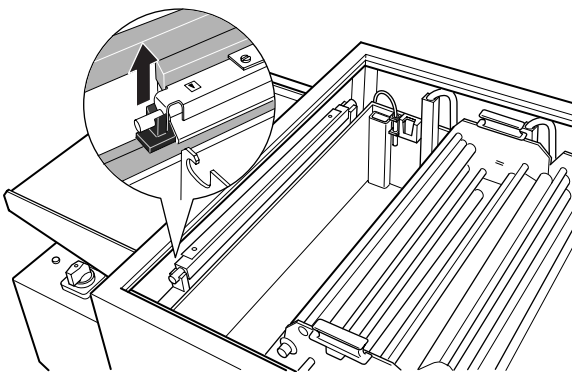
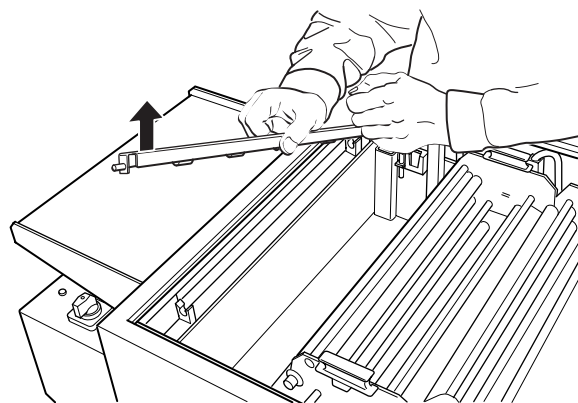

Fig. 11
Fig. 12
- Pull the film sensor upwards and remove it from the holder (fig. 11 and fig.12).